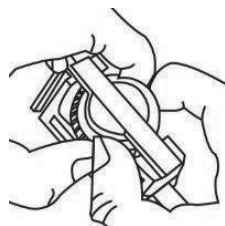

Fig. 1
2. Remove the clamp (A) from the clamp slot (C).
4. Lightly tighten so the drill bit can still move freely (Fig. 1).